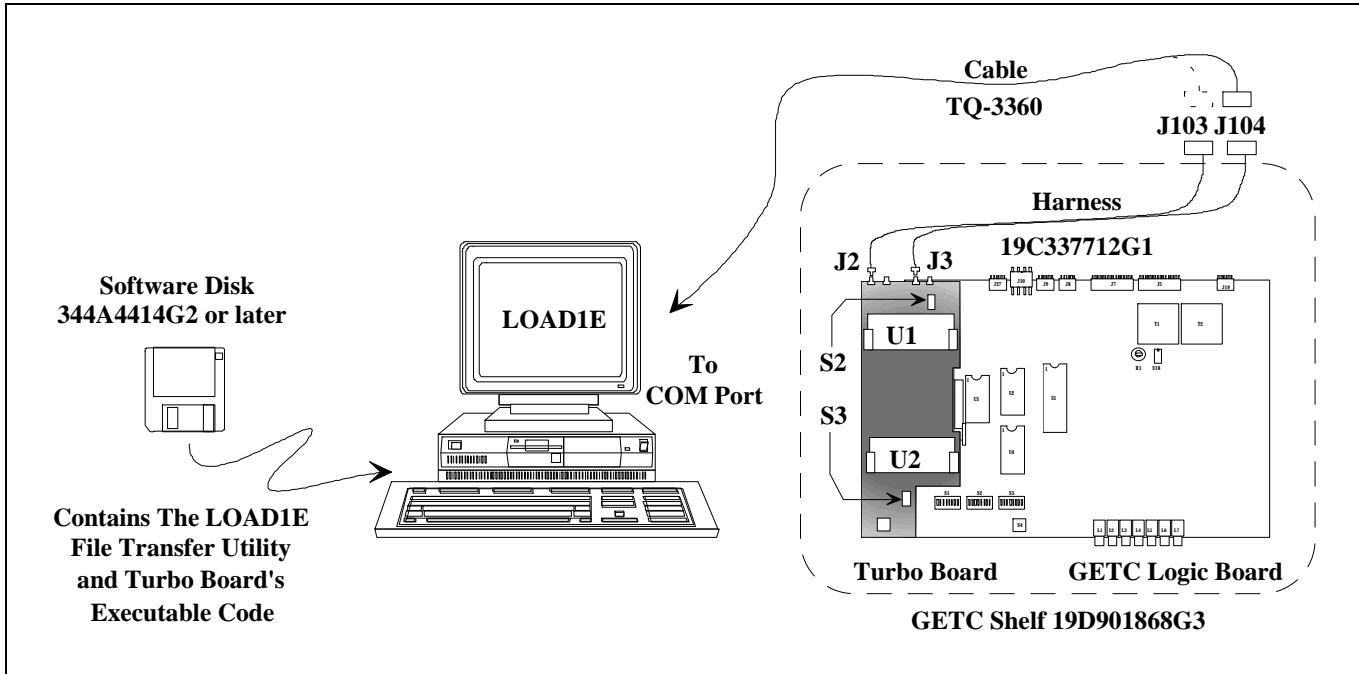

Figure 5 - Turbo Board Programming
1. Connect the TQ-3360 programming cable from the PC's serial port connector to the GETC Shelf connector J104 (see Figure 5). (A DB-25 to DB-9 adapter may be needed.)